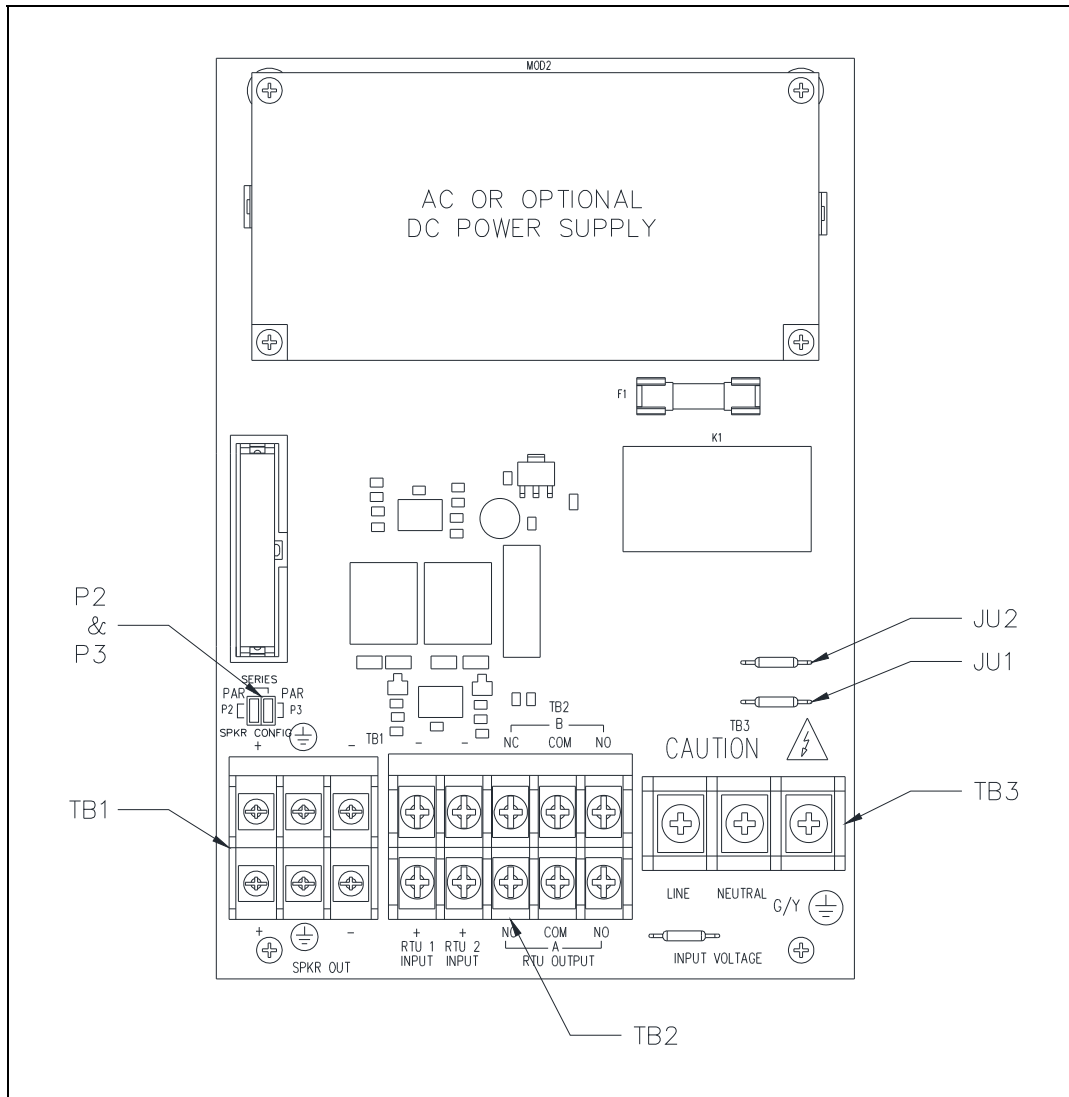
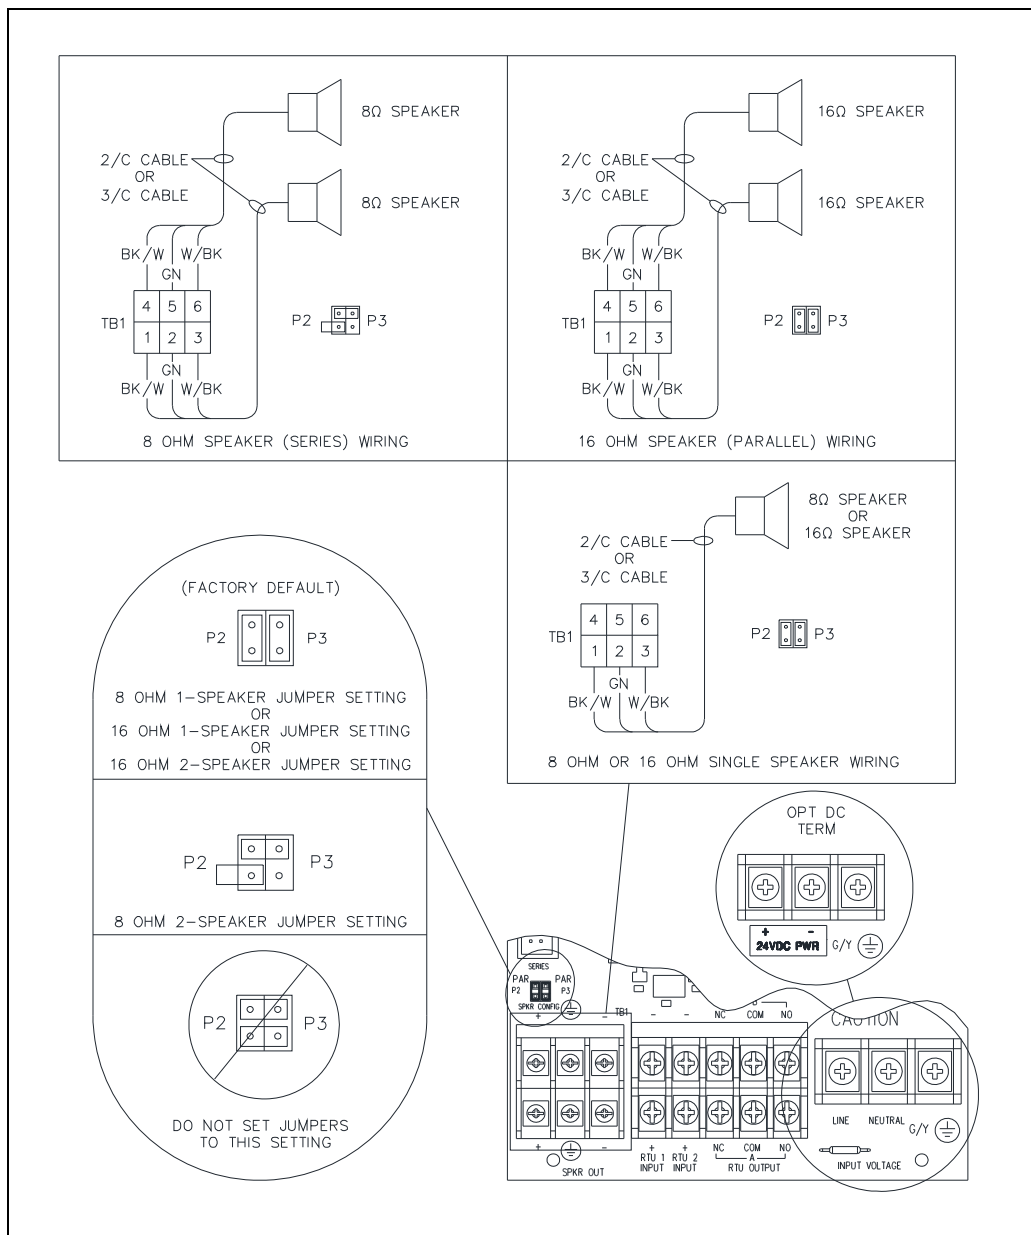
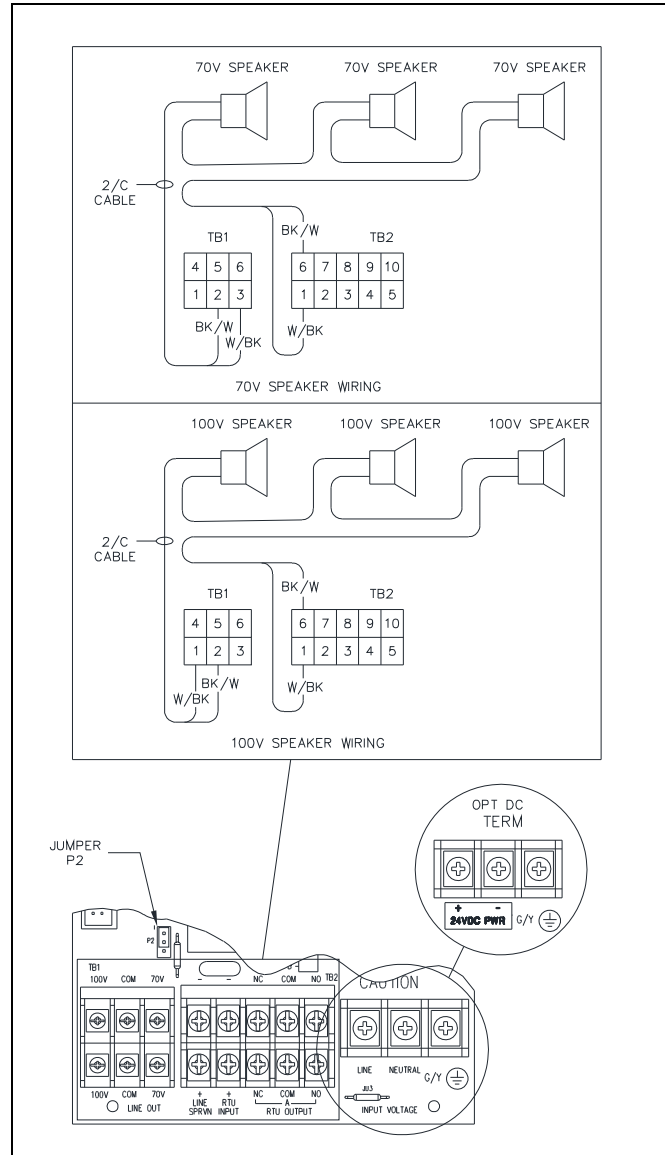
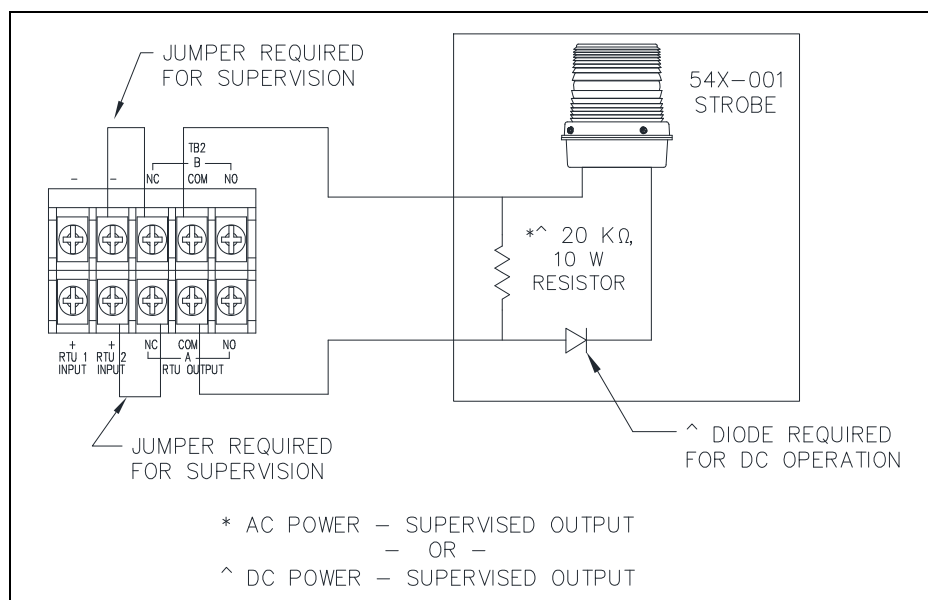

Figure 4. SP2 Termination PCBA
Figure 5. 8/16-ohm Speaker Impedance Configuration and AC/DC Termination at TB3
Figure 6. 70-V/100-V Termination PCBA
Figure 8. Supervised Output Wiring—TB2
5. Configure the speaker jumpers, P2 and P3, for the appropriate impedance for use with 8-ohm or 16-ohm speakers (see Figure 4 and Figure 5).
The optional 70-volt/100-volt speaker line-monitoring PCBA replaces the standard termination board and enables connection of 70-volt and/or 100-volt speakers to the SP2 station. Terminate the station’s speaker loop(s) to terminal block TB1. Wire all speakers in parallel. One speaker loop can be monitored by terminating the return cable to the LINE SPRVN terminals at terminal block TB2 (see Figure 6 and Table 2).
The standard termination PCBA contains two auxiliary RTU inputs. The optional 70V/100V termination board provides speaker line monitoring and has just one auxiliary RTU input. Terminate the input(s) at terminal block TB2 (see Figure 4).
Two form C contacts are provided to power a beacon (see Figure 8). Terminate the output at terminal block TB2 (see Figure 4). Configure the output for dry contact use by removing jumpers JU1 and JU2.
5. Install a 20-kilohm 10-watt resistor across the terminals of the beacon (see Figure 8).
6. Install jumpers at terminal block TB2 to enable cable monitoring (see Figure 8).
The ac or optional dc power supply is on the termination PCBA. Connect the local ac or dc power source to terminal block TB3 (see Figure 4, Figure 5, and Figure 6):